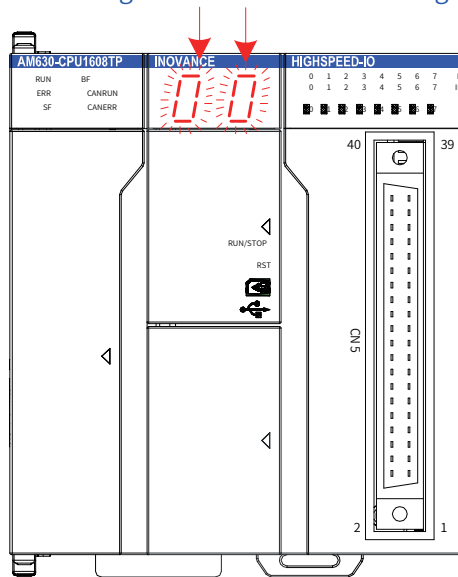

Figure 3-5 PLC 7-segment LED in Identifying state
- Identify Device: identifies the PLC to be connected. After you configure PLC scanning on the Communication Settings tab, multiple PLCs may be detected. After selecting one PLC, click this button. Then the two digits of the 7-segment LED on the PLC panel will alternately display 0, as shown in Figure 3-5.